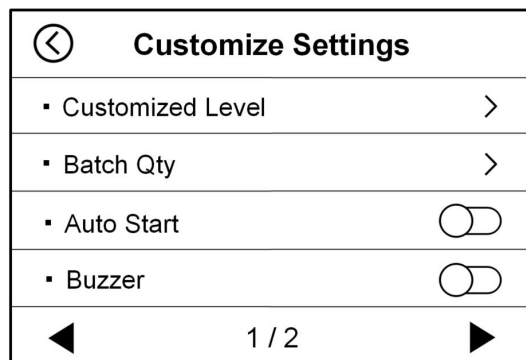

Figure 40
2) In the interface shown in Figure 40, touch the “” key in the lower right corner to enter the second page interface, as shown in Figure 58. Touch the “**Language**” button again to enter the language setting interface, as shown in Figure 59 below: